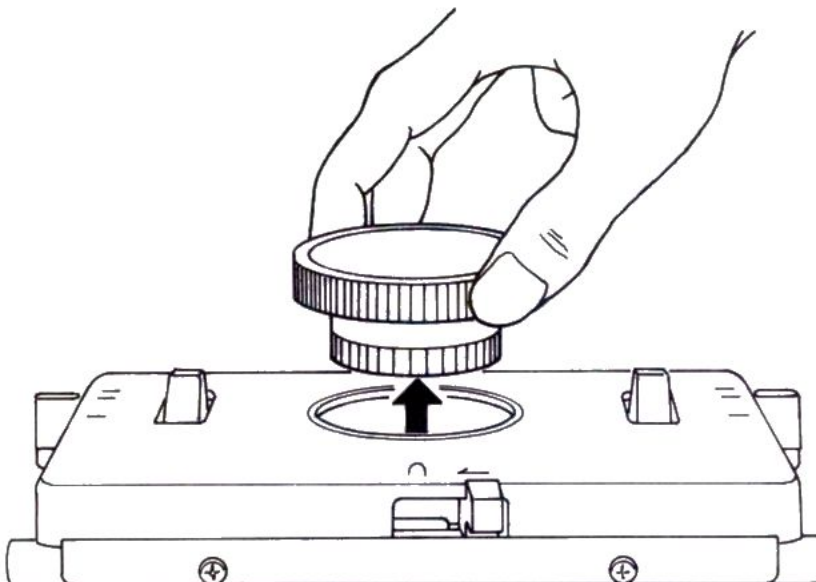

Fig. 7
2. Remove the Stitch Dial as shown in Fig. 7, below.